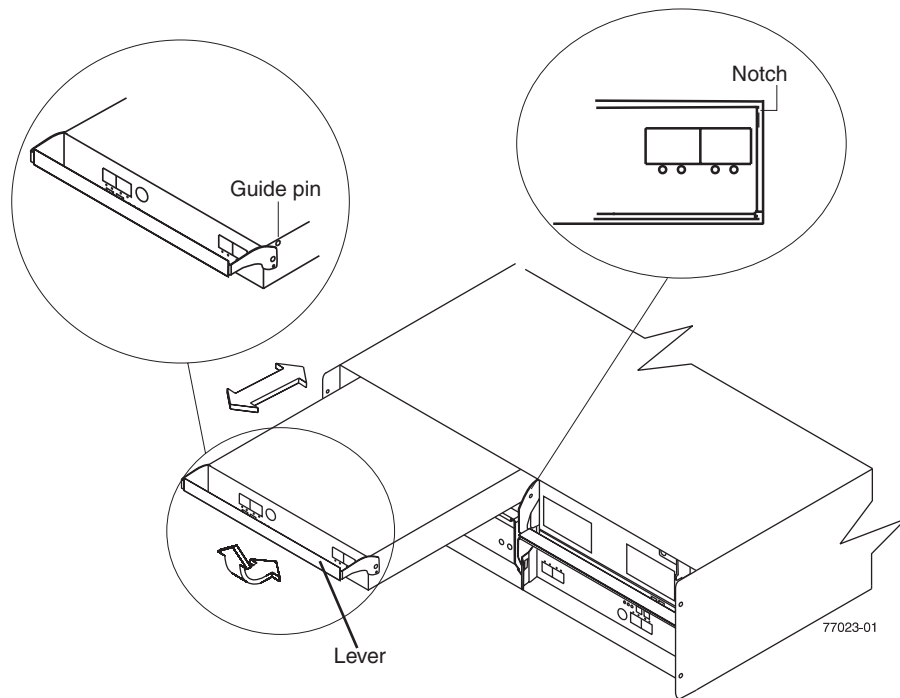

Figure 27. Removing and replacing a controller
1. Slide one controller into the empty slot in the storage subsystem. Be sure that the lever is pulled straight out as you slide the controller in, as shown in Figure 27 on page 49.